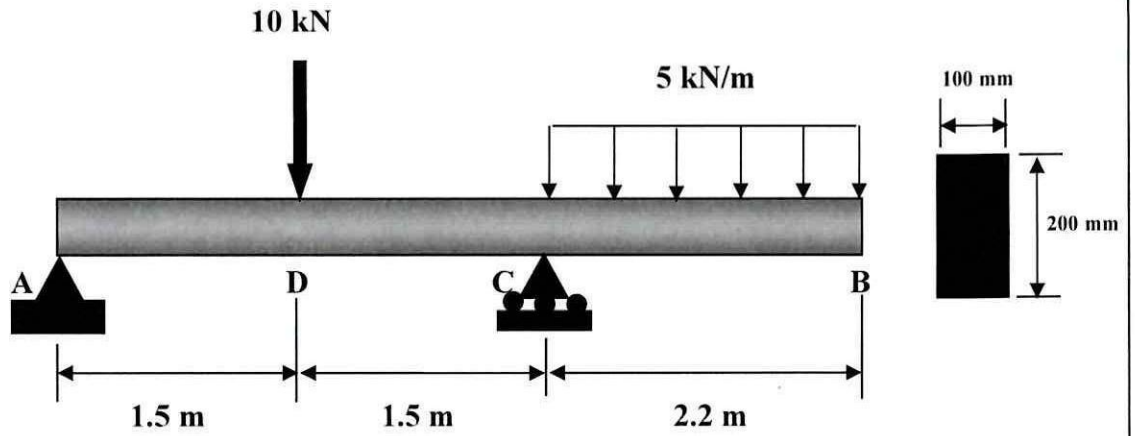

Figure Q1 (b)
- Q1** (a) List **ONE (1)** example of:
- (b) **Figure Q1 (b)** shows a beam AB with loads and supports and have an overhang CB.